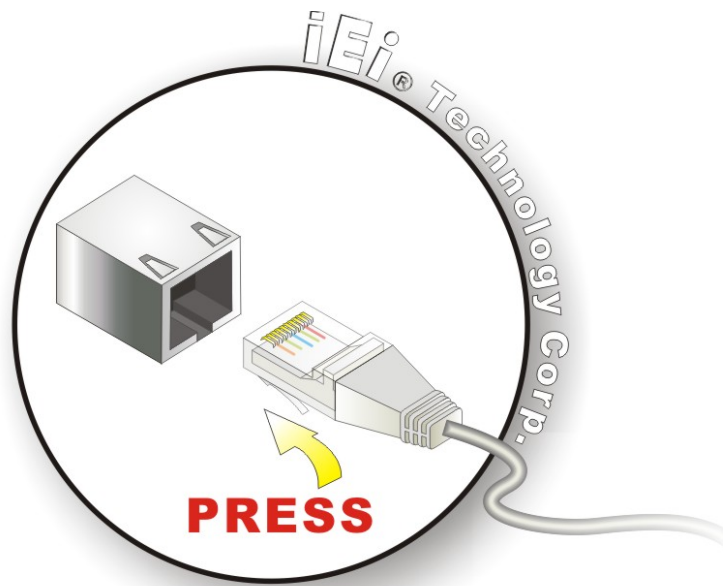

Figure 5-23: RJ-45 Ethernet Connector
Step 2: Insert an RJ-45 plug. Insert the RJ-45 plug of a LAN into the RJ-45 receptacle on the external peripheral interface. See **Figure 5-23**.